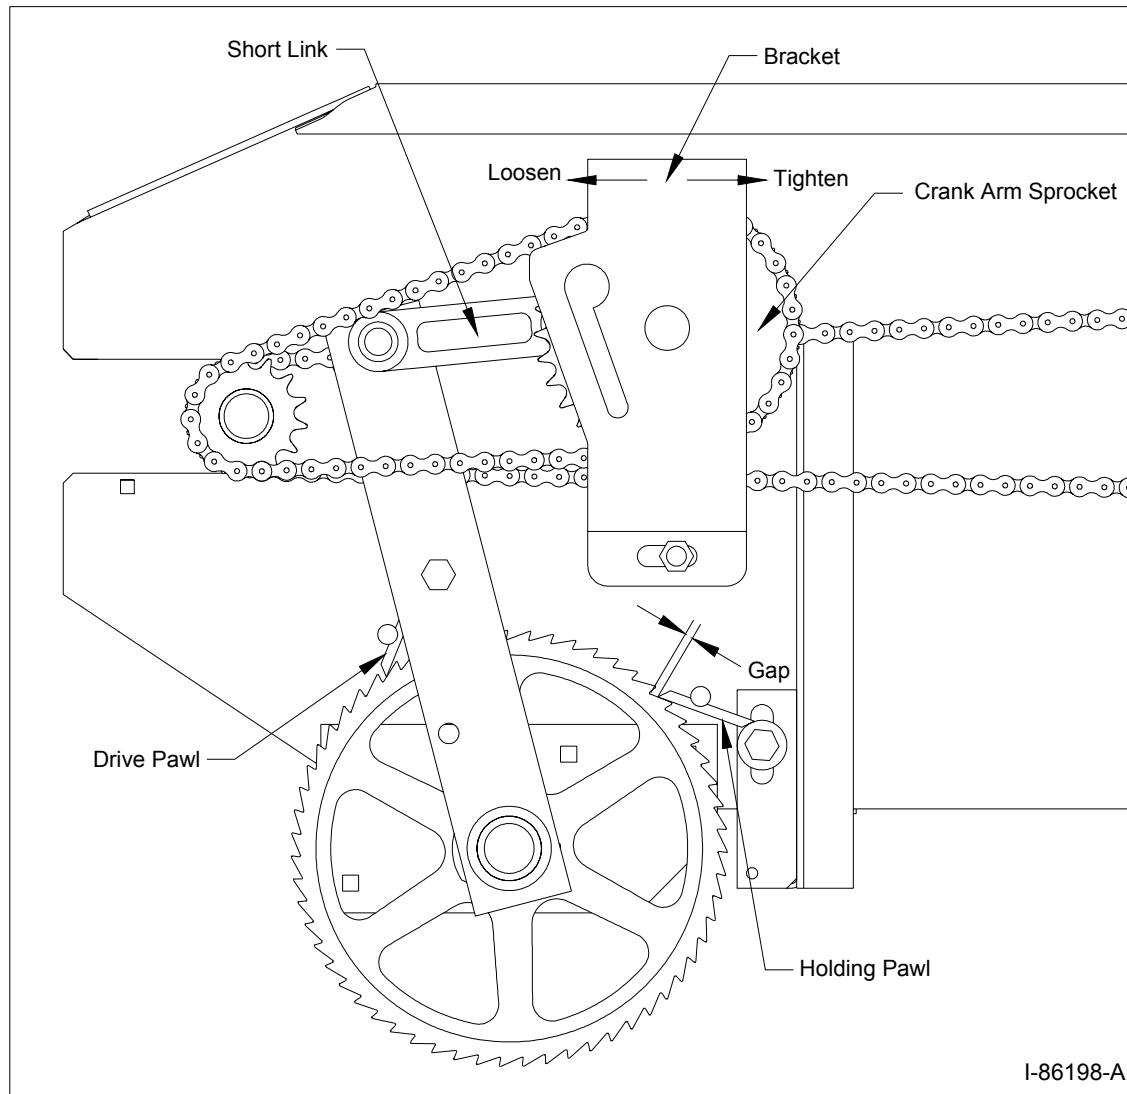

Figure 4B - Adjusting the Holding Pawl and Ratchet Drive Chain
- Apply chain lube once a month (or as needed) to the drive chains (shown in Figure 4B); use vegetable oil or a common spray lube for chains.
To Reset the Holding Pawl (refer to Figure 4B):
- Adjust the holding pawl to obtain a 1/8" gap between the end of the pawl and bottom of the notch as shown in Figure 4B. Tighten the nut to secure the holding pawl.
Refer to **Figure 4B** on the previous page for an illustration of the ratchet drive chain and related components. The chain should be snug, but not too tight. If the chain is too tight, it may cause excessive wear on the bushings in the crank arm sprocket (resulting in premature failure).
- **To adjust the ratchet drive chain (refer to Figure 4B):** adjust the **bracket position** by loosening the two (2) 1/2" bracket bolts and sliding the bracket forward or backward (to tighten or loosen) as shown. Following adjustment of the bracket position, verify that the drive chain is set to the proper tension as specified above.